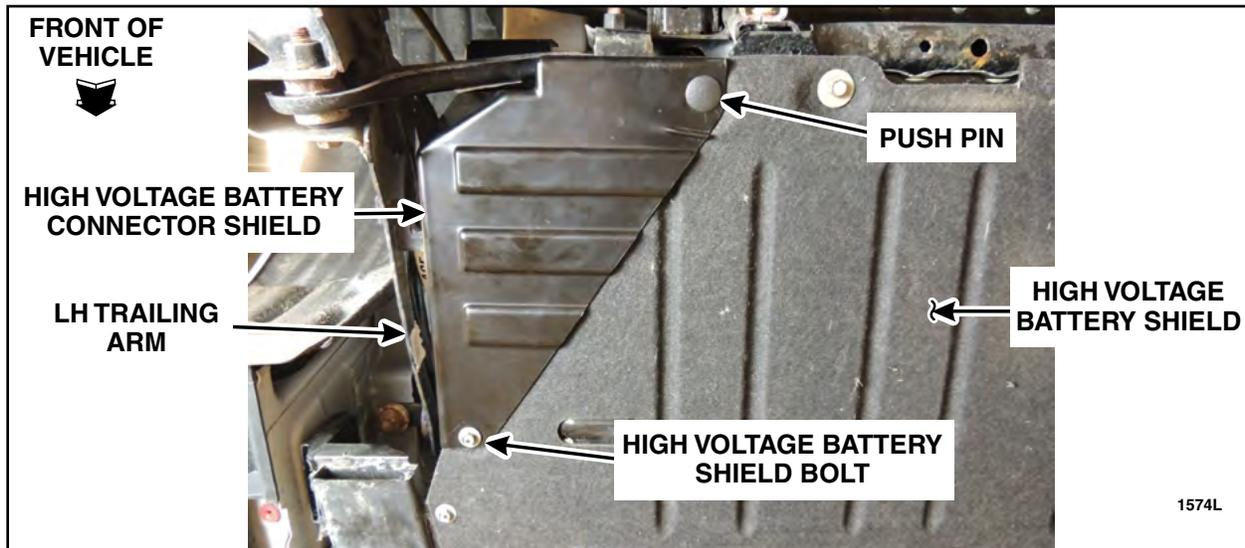

FIGURE 13
7. Install the high voltage battery shield bolt and push pin. See Figure 13.